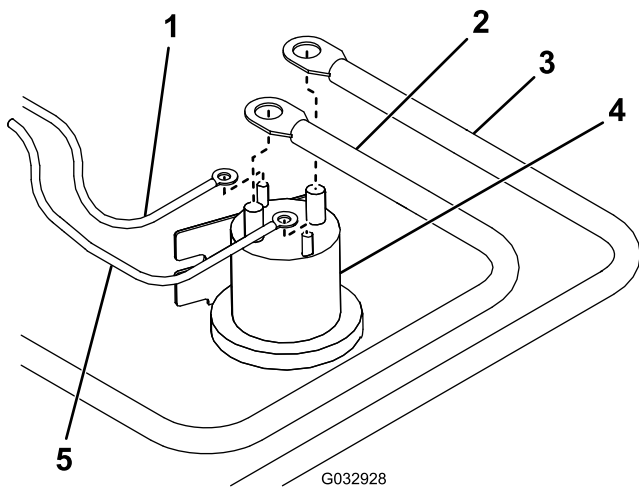

Figure 2
11. Connect the white/black wire from the wire harness to the small post on the pump solenoid (Figure 2).
12. Connect the brown wire from the wire harness to the other small post on the pump solenoid (Figure 2).
14. Connect the red power/ground cable to the large post on the pump solenoid (Figure 2).
15. Connect the battery cable to the other large post on the pump solenoid (Figure 2).